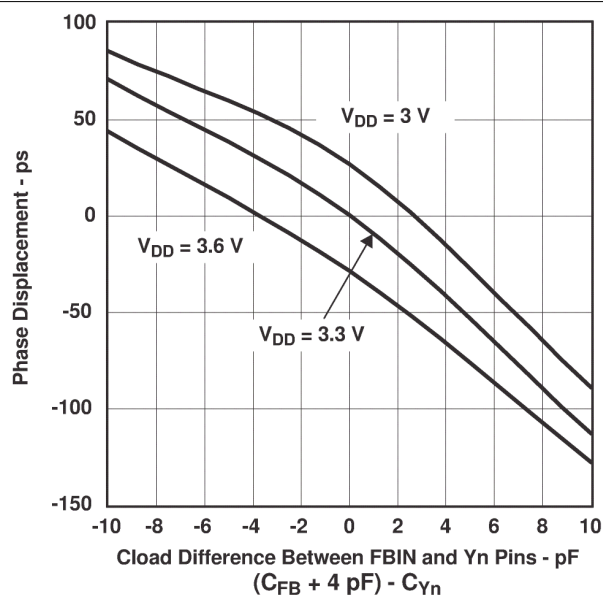

Figure 6-1. Phase Displacement vs. Load
(1) All typical values are at respective nominal V_{DD} .
(2) The $t_{\text{sk(o)}}$ specification is only valid for equal loading of all outputs.
(3) Similar waveform at CLKIN and FBIN are required. For phase displacement between CLKIN and Y-outputs see Figure 6-1.
Figure 6-1 captures the variation of the CDCVF25081 current consumption with capacitive load and phase displacement. Figure 6-2 shows the variation of the cycle-to-cycle jitter across frequency.